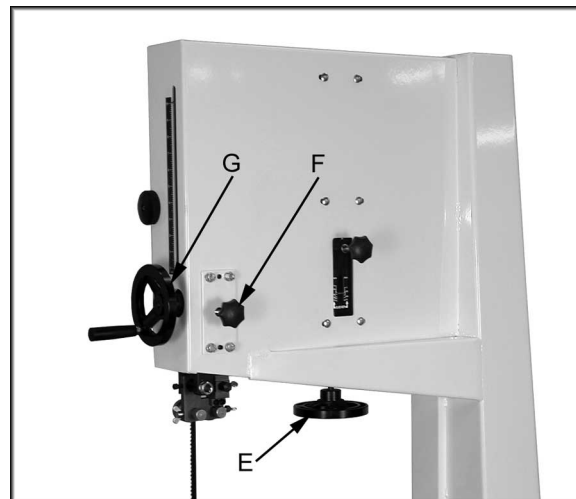

Figure 17
3. Lower the upper blade guide assembly about half way by loosening the lock knob (F, Figure 17) and turning the hand wheel (G, Figure 17).
6. Loosen blade tension by turning blade tension handwheel (E, Figure 17) clockwise until it stops.